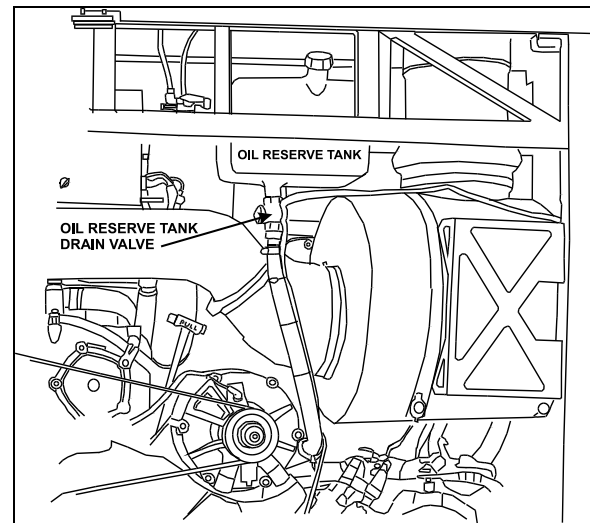

FIGURE 1: ENGINE OIL RESERVE TANK
- FIGURE 1: ENGINE OIL RESERVE TANK .....24-3